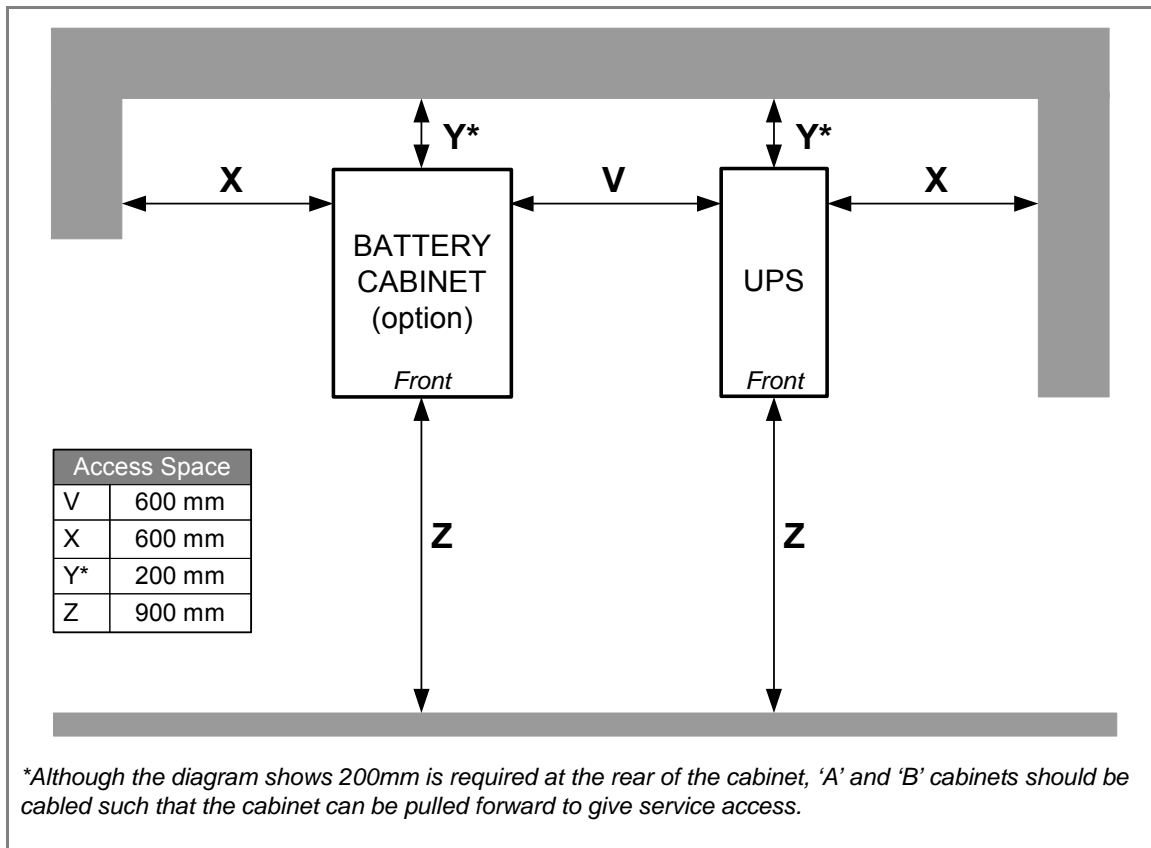

Figure 3.1 UPS Space Recommendations
3. A space of 600mm is required at both sides of the UPS cabinet to facilitate service and maintenance. A space of 900mm should be provided at the front of the cabinet to allow easy passage with the cabinet door open (See Figure 3.1).